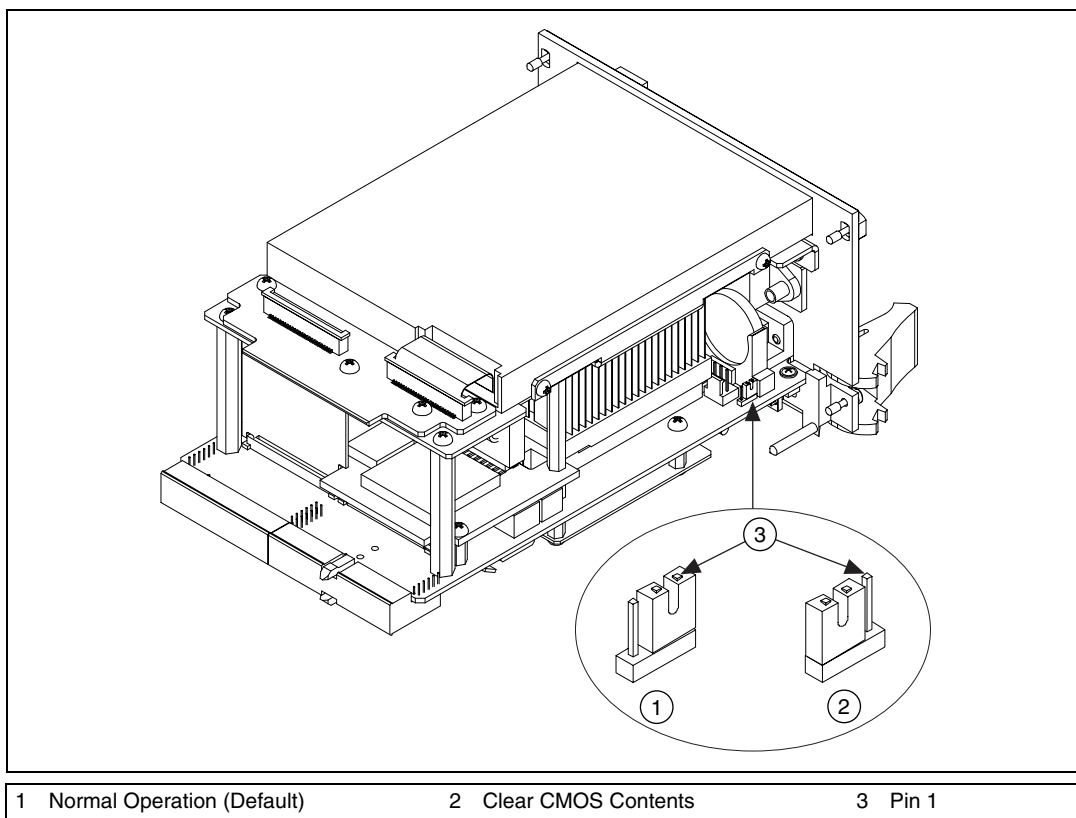

Figure 2-2. Clearing the CMOS Contents
3. Move the jumper on J1 from pins 1-2 to pins 2-3 as shown in Figure 2-2.